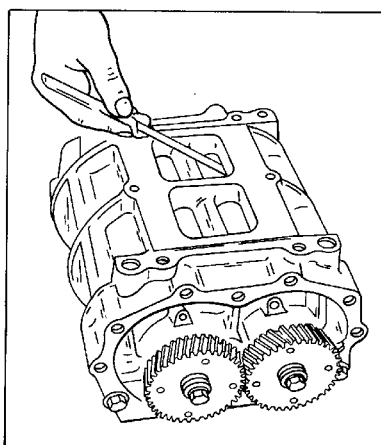
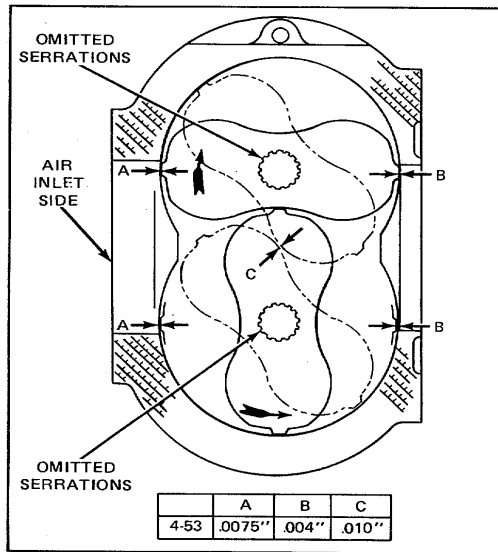

Figure 11. Measuring Rotor Lobe to Housing Clearance
Figure 12. Minimum Blower Rotor Clearance
8. Position the rotors so that the missing serrations on the gear end of the rotor shafts are 90° apart. This is accomplished by placing the rotors in a "T" shape, with the missing serration in the upper rotor facing to the left and the missing serration in the lower rotor facing toward the bottom (Fig. 12). Install the shims and spacers in the counterbore in the rear face of the rotor gears. Then place the gears on the ends of the shafts with the missing serrations in alignment with the missing serrations on the shafts.
a. Measure the clearance between the rotor lobes and the housing as shown in Fig. 11. Take measurements across the entire length of each rotor lobe to be certain that a minimum clearance of 0.004 inch exists at the air outlet side of all blowers and a minimum clearance of 0.0075 inch exists at the air inlet side of the blower (Fig. 12).
b. Measure the clearance between the rotor lobes, across the length of the lobes, in a similar manner. By rotating the gears, position the lobes so that they are at their closest relative position (Fig. 12). The clearance between the lobes should be a minimum of 0.009 inch.